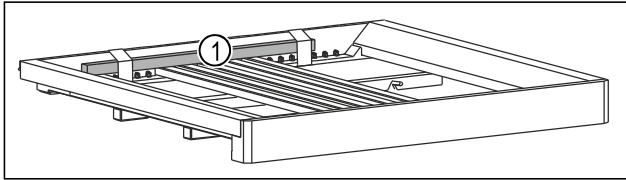

Fig. 6 \*
- ▶ Remove the wooden stick *Fig. 6 (1)*.\*